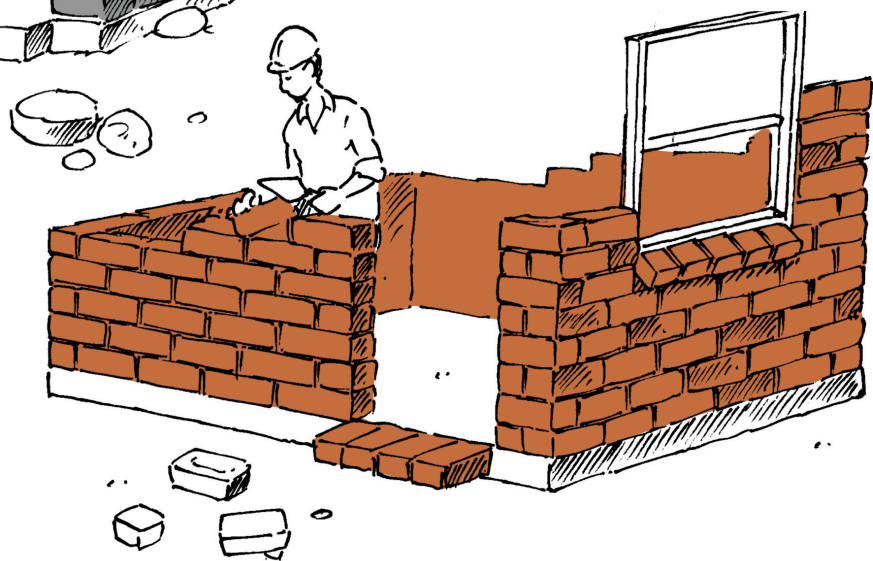

Figure 11: House D
4. (a) What material is being used to build the house in Figure 11?
- (c) What tools are being used by the people building the house in Figure 11?